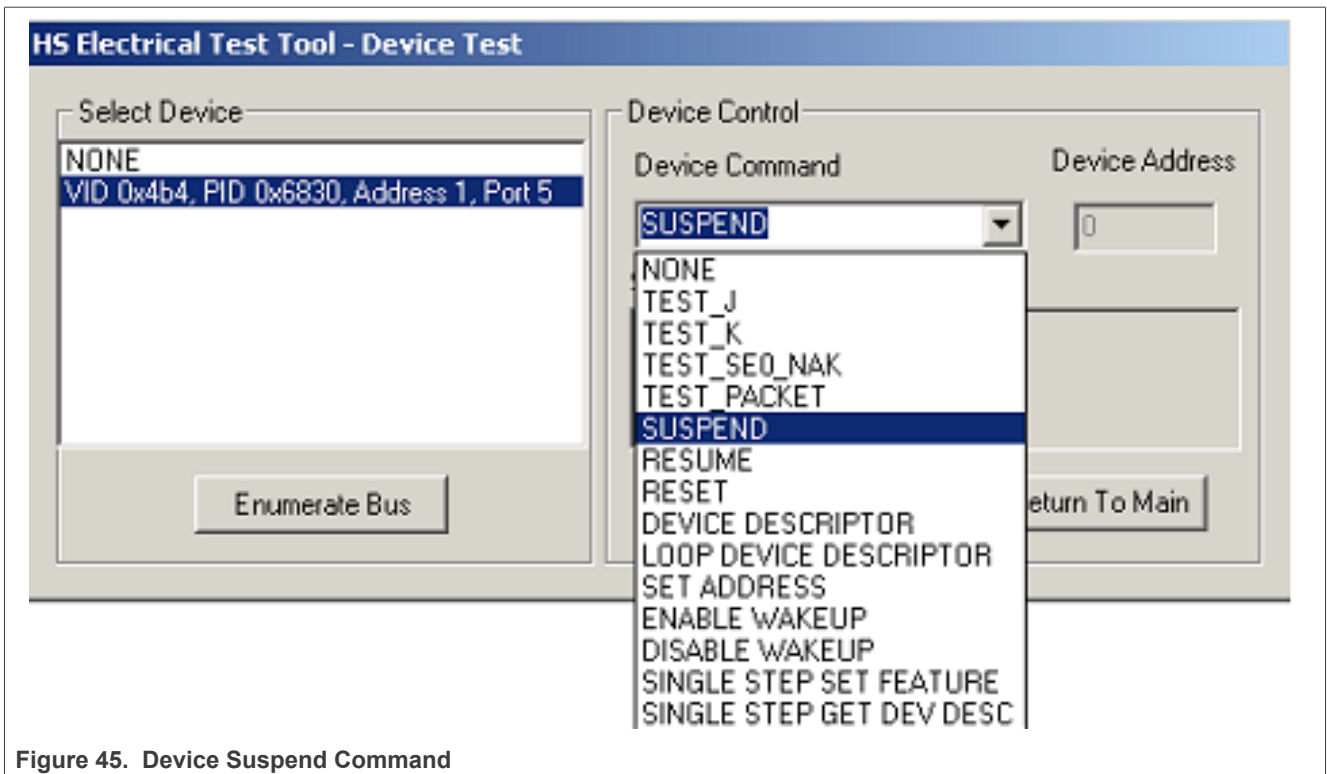

Figure 45. Device Suspend Command
4. Click **Enumerate Bus** on the menu of the HS Electrical Test Tool. Choose the right device, Select **SUSPEND** from the Device Command drop down menu, then click **EXECUTE** once to place the device into suspend. The captured suspend transition should appear as in Figure 45 below.